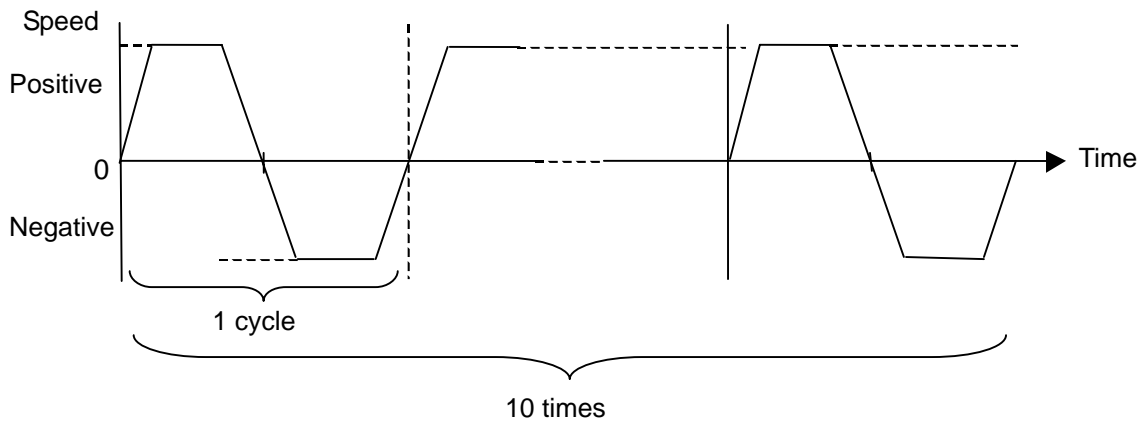

Fig. 5.11.1 Operation Pattern at Offline Auto-tuning
(2) Offline Auto-tuning Operation
- 2- The motor is accelerated or decelerated around the auto-tuning start point with the tuning run speed in both forward and reverse directions. This is regarded as one cycle and up to 10 cycles are repeated. (Refer to Fig. 5.11.1.)